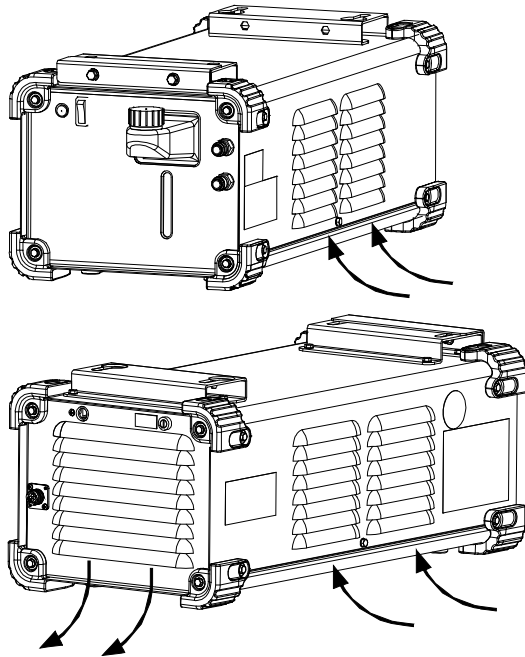

Figure 4.
10. **Airflow Slots:** Enable proper circulation of air cooling (Figure 4).